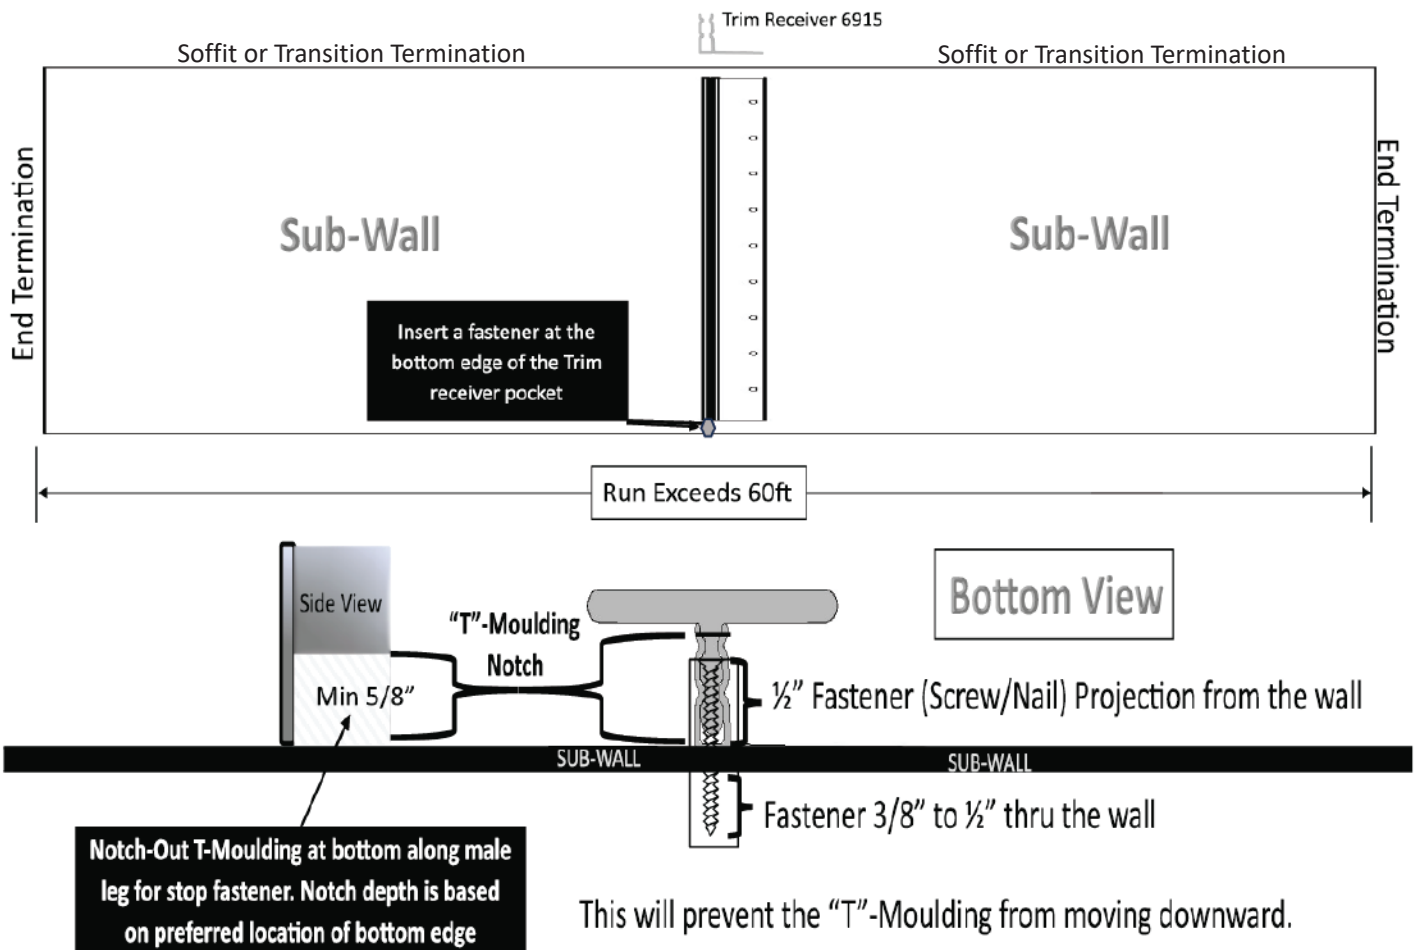

Figure 2
2. Locate Trim Receiver 6915 near the center of the wall, square and fasten (Figure 2).
- * Create a "T"-Moulding stop at the bottom of the "T"-Moulding (Figure 2).